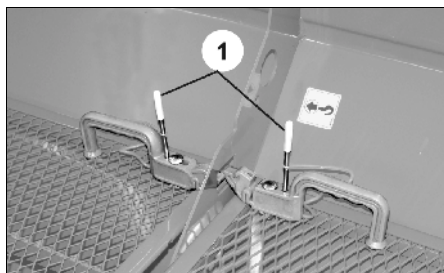

Fig. 16
- (Fig. 16/1) parkeringsposition (standardposition)